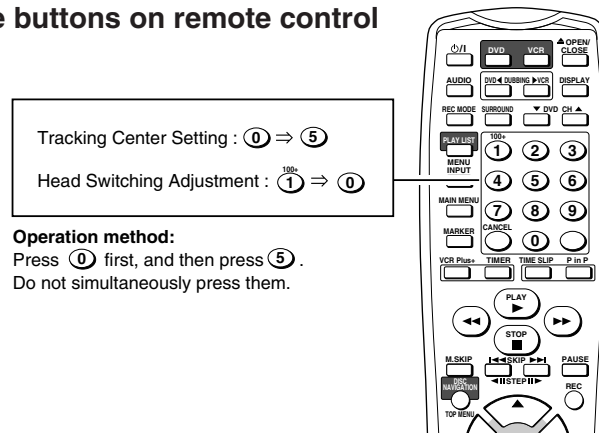

Fig. 5-2-1 Location of reference button of remote control
- 1) X-Value (Tracking center) adjustment and “Head switching adjustment” can be performed, using the remote control. (See Fig.5-2-1)
- 3) While “TEST” is being displayed, press the [1], [0] buttons: Remote control adjustment will operate automatically. (See Fig.5-2-1)
- 3) While "TEST" is being displayed, press the [0], [5] buttons on remote control, and the adjustment will operate automatically. (See Fig. 5-2-1)